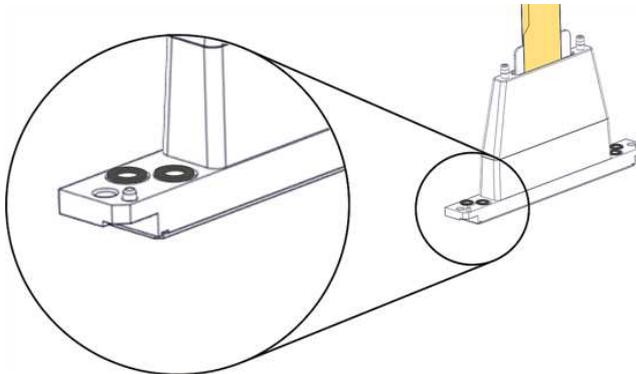

Figure 4-76 O-ring seals on the print head
16. Place four (4) new O-ring seals in the replacement head (see Figure 4-76 on the previous page).